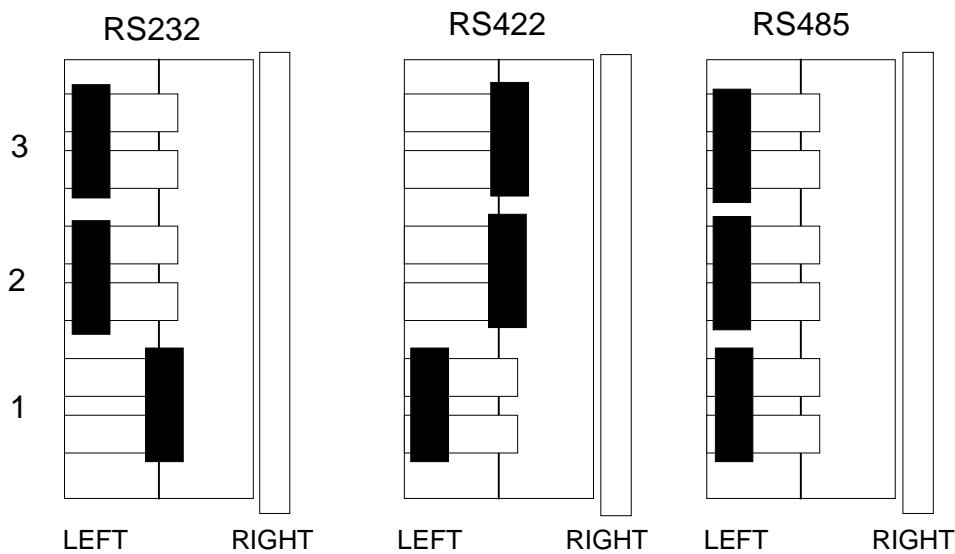

Figure 2-4 RS232 / RS422 / RS485 SWITCHES CONFIGURATION
9. Verify the switches configuration on communication board (See Figure 2-4)